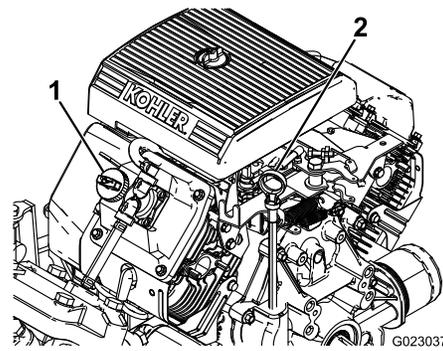

Figure 40
2. Remove the dipstick and wipe it with a clean rag (Figure 40). Insert the dipstick into the tube and make sure that it is seated fully. Remove the dipstick and check the oil level.
3. If the oil level is low, remove the filler cap from the valve cover (Figure 40) and pour oil into the opening until the oil level is up to the FULL mark on the dipstick. Add the oil slowly and check the level often during this process. Do not overfill.
8. Slowly pour approximately 80% of the specified amount of oil into the oil filler tube (Figure 40).